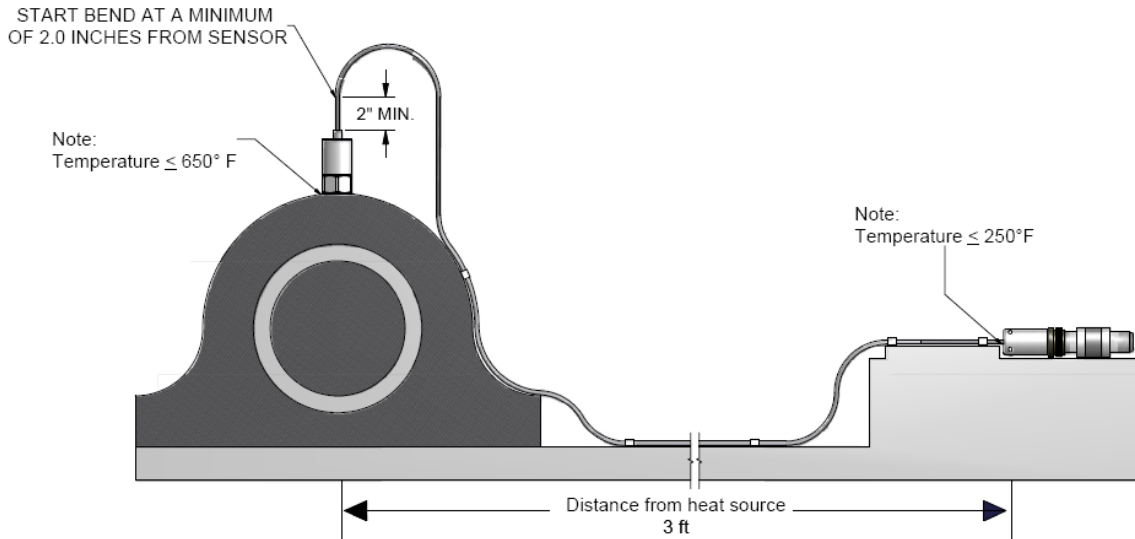

Figure 2. Sensor Mounting & Securing Cable
3. Figure 2 shows a properly mounted and secured sensor
5. If charge amplifier is not used, use low noise cabling and properly secure to minimize cable movement. Movement in the cable can cause triboelectric noise and corrupt the vibration signal. See Figure 2.